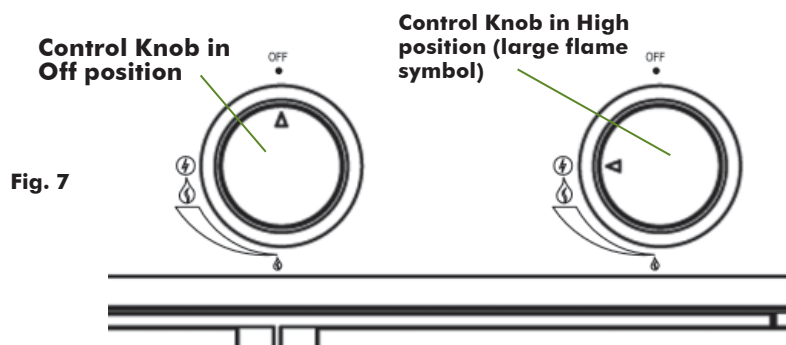

Fig. 7
2. **IMPORTANT:** Make sure Control Knobs are turned "Off." (Fig. 7)
4. Push far left Main Burner Control Knob in on Control Panel and turn counterclockwise to the High position. (Figs. 7 and 9)
2. **IMPORTANT:** Make sure the Side Burner Control Knob is turned "Off" first. (Fig. 7 p.22)
4. Push Side Burner Control Knob in and turn counterclockwise to the High position. (Fig. 7 p.22) For IR Side Burner on 6805, hold knob in while pushing the igniter button as explained in step 5. After releasing the Igniter Button, continue to hold the knob in for another 10 seconds to allow the complete heating of the safety sensor.